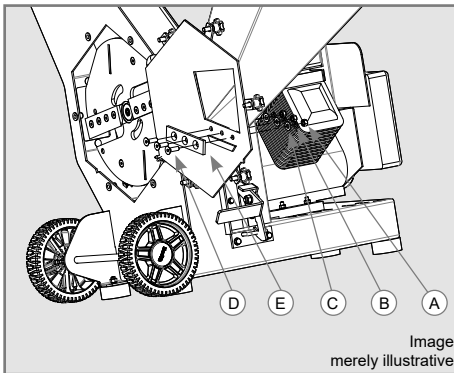

Figure 7
- ✓ To release the counter cutting follow the following description, according to Figure 7:
- ✓ Loosen the nut (A) and the screw (D), remove the washers (B), the flat washers (C) and remove the counter cutting (E).